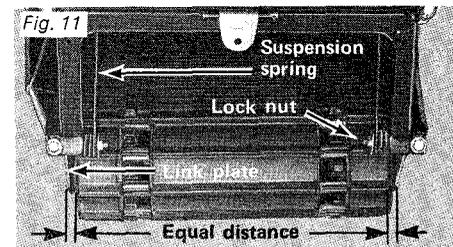

Fig. 11
1. Using wrench, loosen both track adjusters by unscrewing the lock nuts situated on the inner side of the suspension springs (See Fig. 11).
2. Adjust to proper tension by turning adjuster bolts, clockwise to tighten track, counter-clockwise to slacken. Adjust both sides equally (See Fig. 11).
The distance between the edges of the track and the link plates should be the same on both sides (See Fig. 11). Misalignment can cause excessive wear of track edges and sprocket teeth.